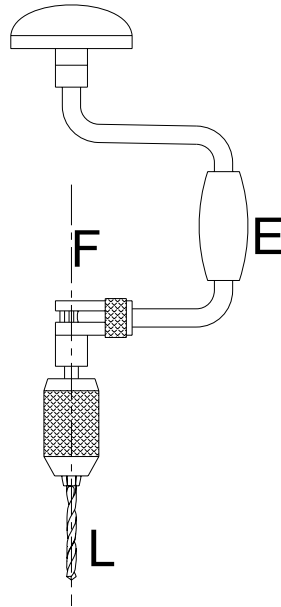

Fig. 2
- (b) The brace shown in Fig. 2 uses a crank to apply turning effort to the drill bit.
- (i) Using the information shown in Fig. 2 give the class of lever that is used in the brace.